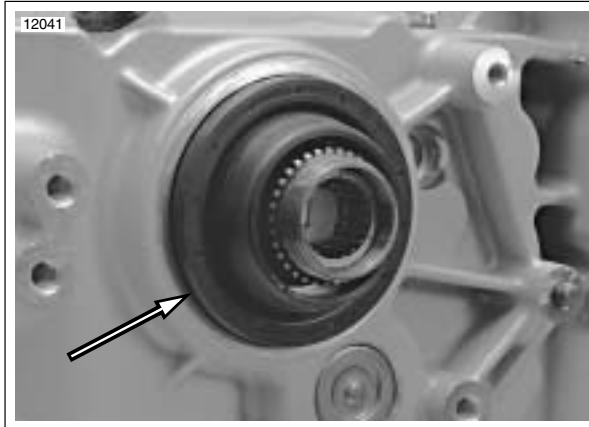

Figure 6-79. Install Main Drive Gear Seal (Typical)
3. See Figure 6-79. Place seal over pilot and position seal squarely in end of crankcase bore.